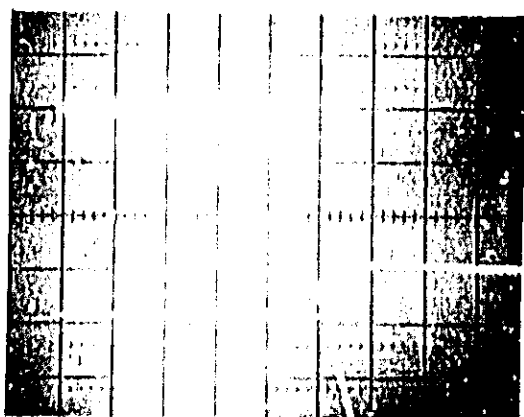

Figure 5-4. A3TP1 and A3TP "NEG". Channel A Vert. 5 V/div. Channel B Vert. 5 mV/div. Horiz. 50 μsec/div. Ext Trigger from A8TP "SC".
- nn. Connect the other input channel of the oscilloscope to the test point adjacent to the word NEG on the board. Set this channel for a sensitivity of 5 volts per division. Set sweep speed to 50 $\mu\text{sec/div}$ and DISPLAY to CHOP. Check to see that the transition of the waveform from the NEG terminal occurs when the voltage at the I terminal is at -20 mV $\pm$ 5 mVdc with respect to its initial (horizontal line) value. See Figure 5-4.